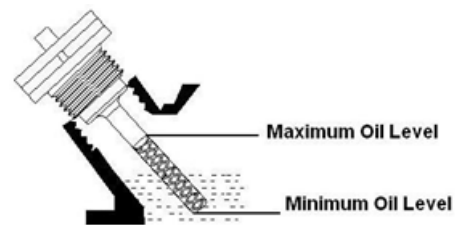

Figure 2 - Oil Fill Opening, Dipstick and Oil Level
2. Remove the dipstick from the engine. (Figure 2)
3. Add oil slowly as to not overflow the unit. (Figure 2).
5. Slowly add more oil and repeat step 4 until the oil mark reaches to the top of the dipstick (Figure 2). Do not overfill the crankcase. The generator is equipped with a low-oil sensor and will not start if the amount of oil is insufficient.